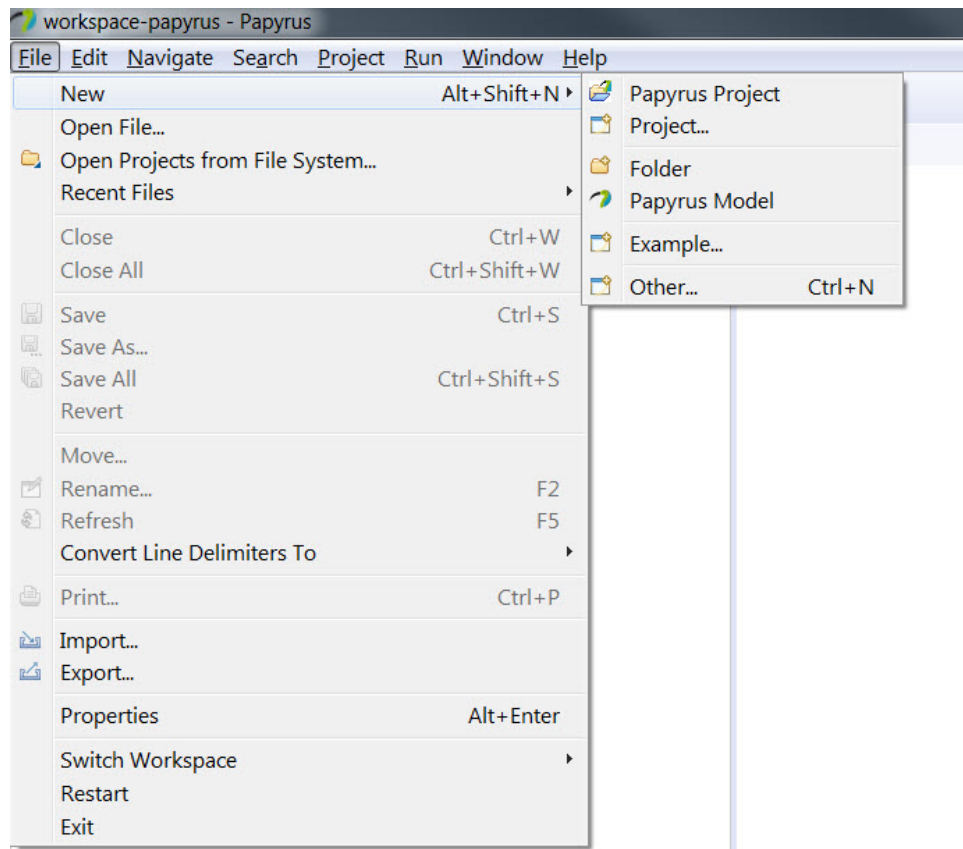

Figure 1: New Papyrus Project
1. Create a new *Papyrus* project by selecting **File > New > Papyrus Project** (see figure 1).